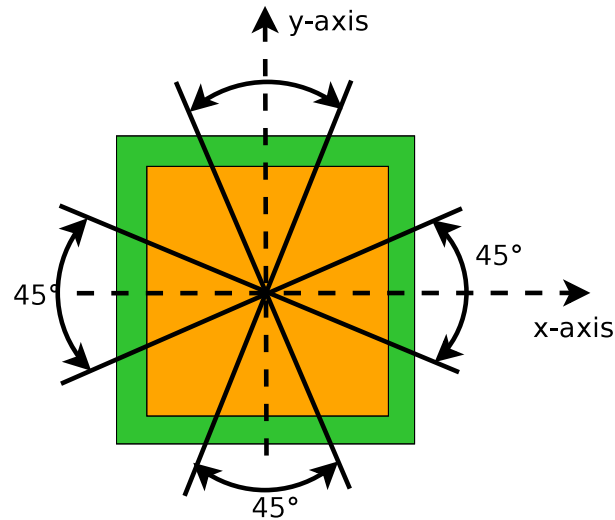

Figure 3.6: Example of rotational alignment (numberOfRotations=4 and rotationalTolerance=22.5 deg)
- **rotationTolerance**: the tolerated angle difference with respect to each of the allowed docking rotations (see figure 3.6).
- **numberOfRotations**: specifies how many different docking rotations are allowed in a full 360 degree rotation around the `Connector`'s `z`-axis. For example, modular robots' connectors are often 1-, 2- or 4-way dockable depending on mechanical and electrical interfaces. As illustrated in figure 3.6, if `numberOfRotations` is 4 then there will be 4 different docking positions (one every 90 degrees). If you don't wish to check the rotational alignment criterion this field should be set to zero.